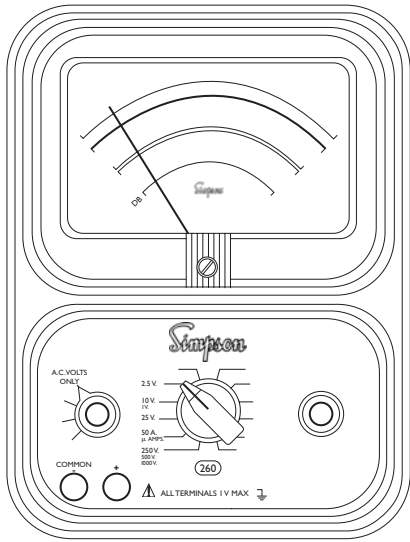

FIGURE 4-10. Jacks and Switch Positions for Measuring Decibels.
- b. Refer to Figure 4-10 for switch settings and jack connections.